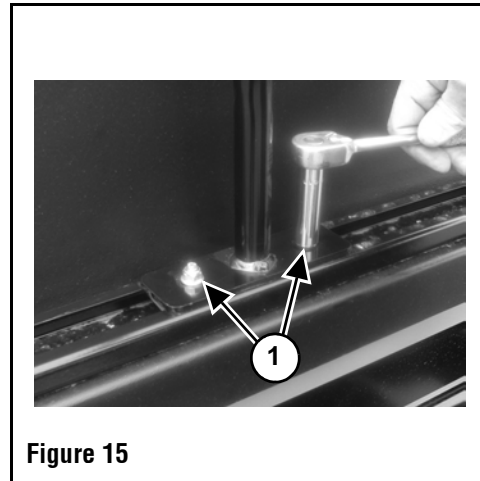

Figure 15
1. Using a 1/2 inch socket or wrench, remove two nuts (Item 1) from the SPACE bar. (both sides) **(Figure 15)**
4. Install and tighten the two nuts (Item 1). **(Figure 15)**